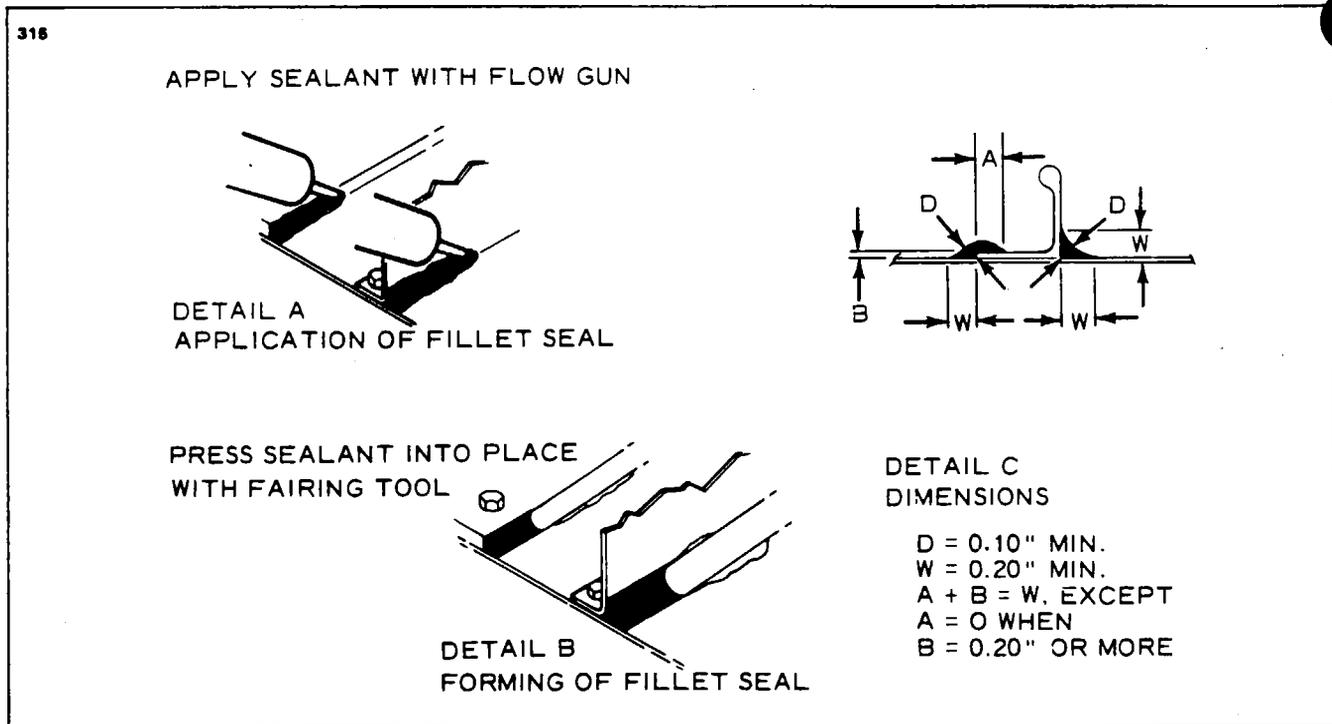

Figure 51-16. Fillet Seal
**SEALING SEAMS AND JOINTS.** (Refer to Figure 51-16.)
Fillet seals should be used along the edges of all structures riveted to the skin in the pressurized area, such as frames, stringers, doublers, laps, seams and joints. The sealant is applied with a pressure gun and care is taken to avoid getting any gaps or bridges along the seam joint. The final dimensions of a cross section of the bead must conform to those shown in Figure 51-16.